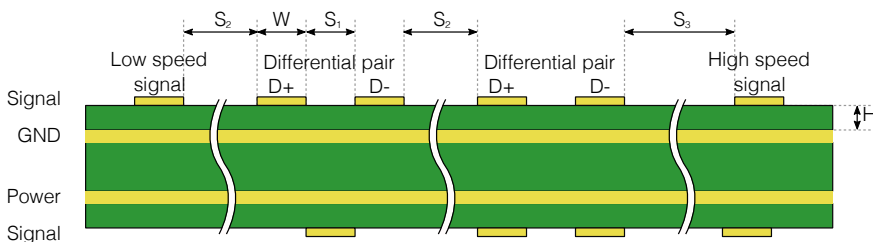

Fig. 18: Spacings of a low speed signal, two differential pairs and a high speed signal
If you are using the USB PHY, then you should route the differential pair marked D+ and D- carefully in order to ensure signal integrity. The D+ and D- lines are the positive and negative data polarities of a high-speed signal respectively. Their high-speed differential nature implies that they must be coupled and properly isolated. The board design must ensure that the board traces for D+ and D- are tightly matched. In addition, the differential impedance of D+ and D- must meet its specifications. Fig. 18 and the table below shows guidelines on how to space and stack the board when routing differential pairs.
- ▶ High-speed clock and periodic signal traces that run parallel should be at least a distance  $S_3$  away from D+/D- (see Fig. 18 and the table above).
- ▶ Low-speed and non-periodic signal traces that run parallel should be at least  $S_2$  away from D+/D- (see Fig. 18 and the table above).